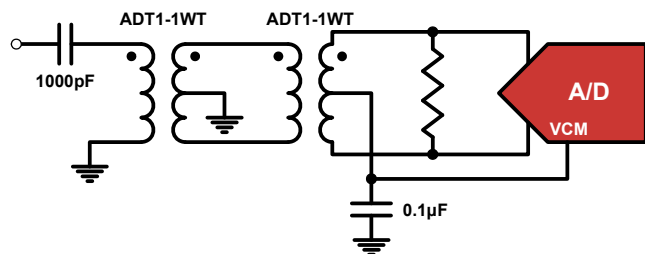

FIGURE 30. TRANSFORMER INPUT FOR GENERAL PURPOSE APPLICATIONS
Best performance is obtained when the analog inputs are driven differentially. The common-mode output voltage, VCM, should be used to properly bias the inputs, as shown in Figures 30 through 32. An RF transformer will give the best noise and distortion performance for wideband and/or high intermediate frequency (IF) inputs. Two different transformer input schemes are shown in Figures 30 and 31.